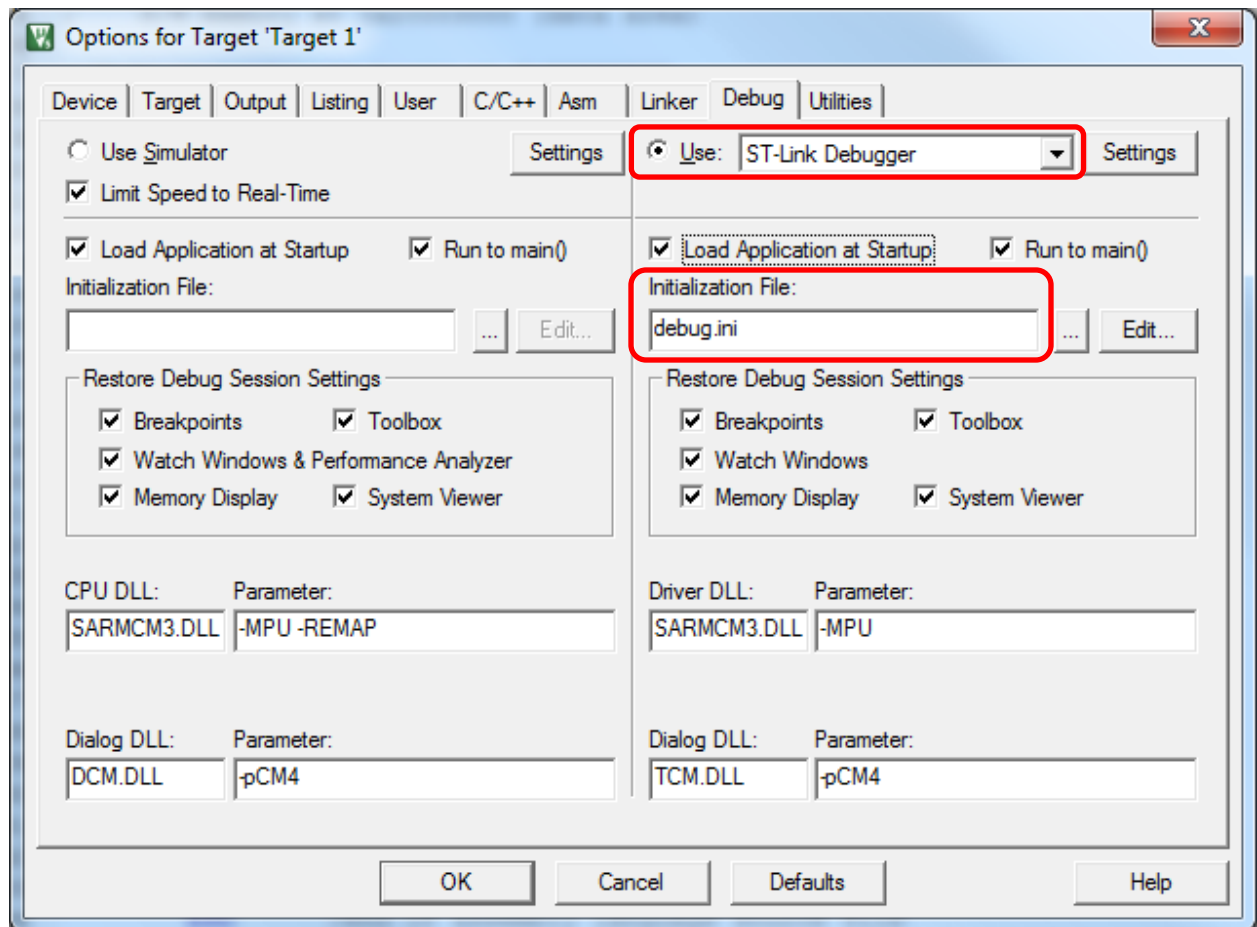

Figure 6. Target Options Debug tab. “Use ST-Link Debugger” selected.
- Select the **Debug** tab (Figure 6), check the **Use** button and select **ST-Link Debugger**.
9. To initiate a debug session for a program previously programmed into the microcontroller's flash memory on the Discovery board, set up the project Debug options as in step 8 above, but on the Debug tab (Figure 6) uncheck the button **Load Application at Startup**, located beneath the **Use ST-Link Debugger** button. This will cause the debugger to be entered without downloading the program, thereby using the program currently in the microcontroller's flash memory.